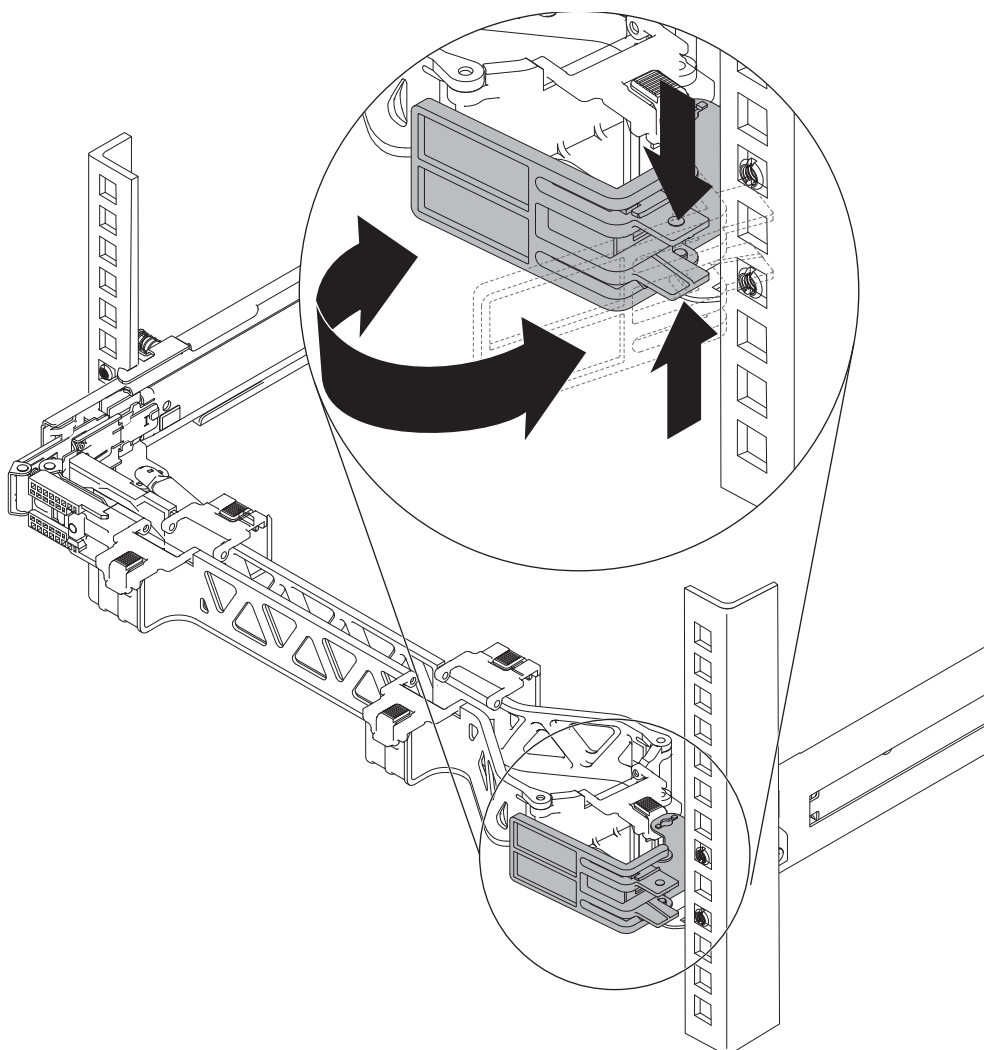

Figure 31. Closing the stop bracket
5. Close the stop bracket as shown in Figure 31 on page 30.